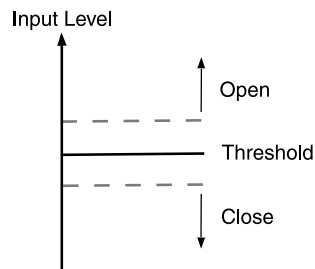

Figure 4.2 Hysteresis
- **Hysteresis:** sets a range in dB above and below the Threshold which separates the levels at which the Input Gate opens and closes (Figure 4.2). The input signal must reach a level above the Threshold plus Hysteresis to open. Once opened, the input signal must reach a level below the Threshold minus Hysteresis to close. Control range is from 0 dB to 12 dB in 1/2-dB steps.